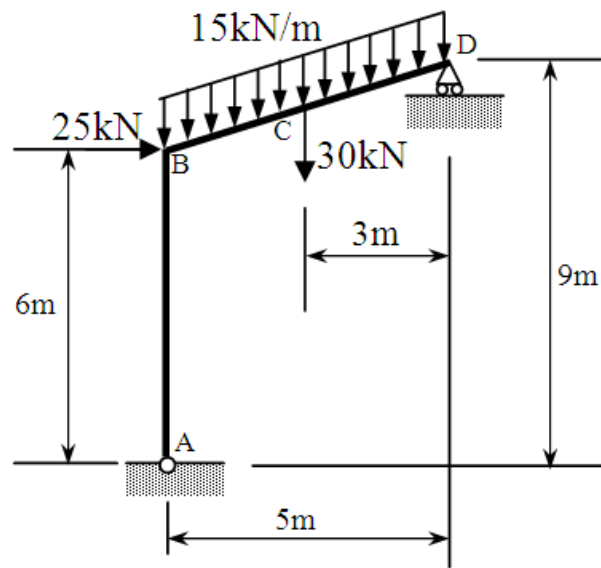

Figure 1/Rajah 1
1. **Figure 1** shows a frame with pinned and roller supports at A and D, respectively. It is loaded by a uniformly distributed load 15 kN/m along inclined members BCD, a horizontal concentrated load 25 kN at joint B and a vertical concentrated load 30 kN at point C.